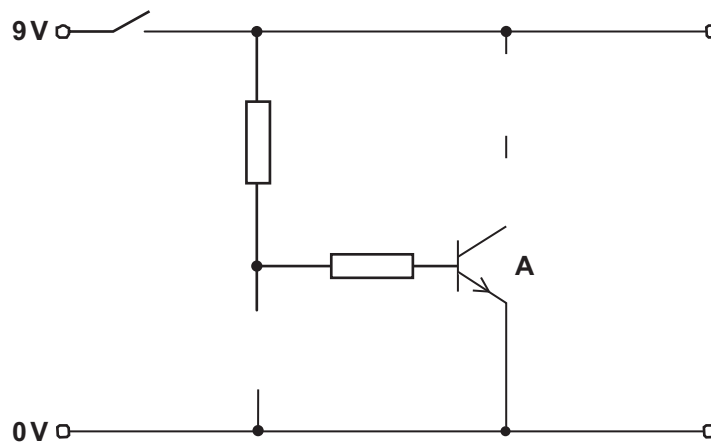

Fig. 6
- 6 The incomplete electronic circuit shown in **Fig. 6** requires an LED, an LDR and a resistor to be connected to complete the circuit.
- (i) Show where each component symbol should be connected in the circuit by writing **LED**, **LDR** or **Resistor** in the correct space in **Fig. 6**. [3]
- (ii) Name the component labelled **A** in **Fig. 6**.